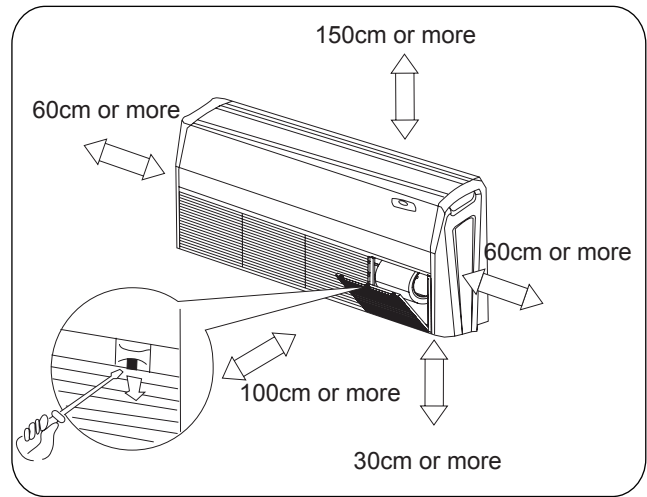

Fig.2
- (1) Such a place where cool air can be distributed throughout room.
- (2) Such a place where condensation water is easily drained out
- (3) Such a place that can handle the weight of the unit.
- (4) Such a place which has easy access for maintenance.
- (5) Such a place where is permitting easy connection with the chilling water pipe.
- (6) Such a place where is 1m or more away from other electric appliances such as television, audio device, etc.
- (7) Avoid a location where there is heat source, high humidity or inflammable gas.
- (8) Be sure that the installation conforms to the installation dimension diagram.
- (9) The space around the unit is adequate for ventilation(Refer to Fig.2)
- (10) The height of the installed location should be 2.3m or more from the floor.